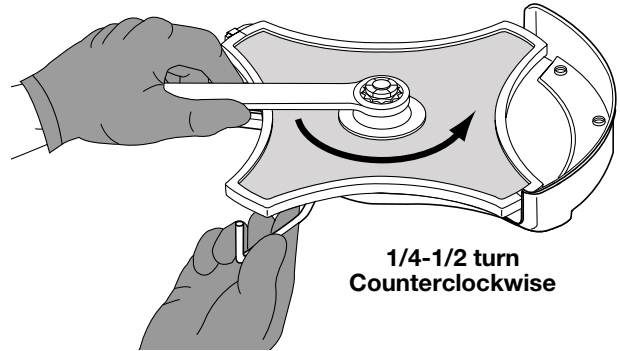

Fig. 14
- Without a torque wrench, use a 5/8 inch closed-end or socket wrench, turning the nut until the blade retainer is snug against the shaft bushing. Make sure that the blade is installed correctly, then rotate the nut an additional 1/4 to 1/2 turn counterclockwise (Fig. 14).